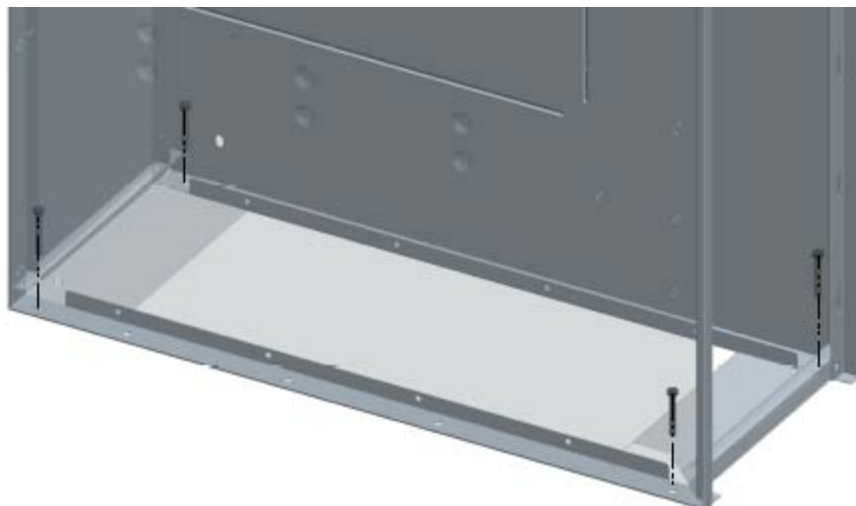

Figure 4: Positioning: Anchoring a DF-3 cubicle
- Anchor the first cubicle to the floor by using four bolts. Use the provided openings as seen in figure 4.